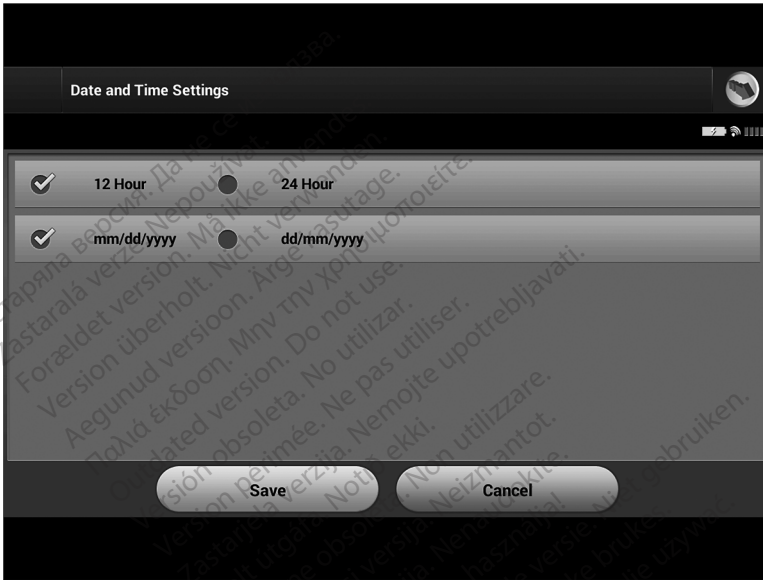

Figure 11. Set Date and Time Format screen
1. Select Set Date and Time Format on the Programmer Settings screen (Figure 11 Set Date and Time Format screen on page 18). The Date and Time Settings screen appears.